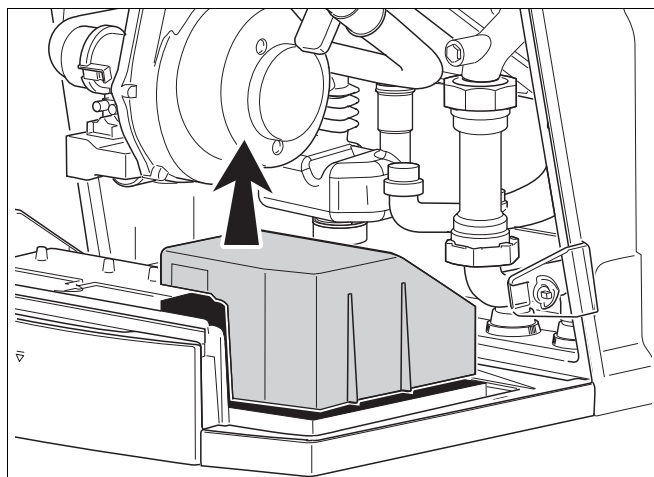

fig. 50 Removing the cover from the connection box
- Remove the cover from the connection box (see fig. 50).